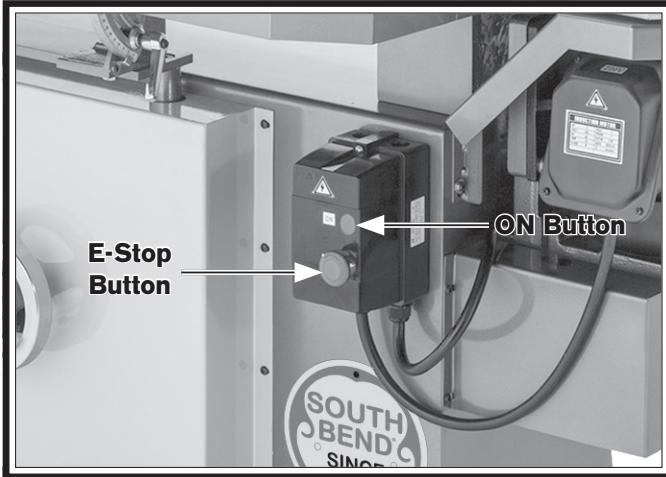

Figure 26. Power control components.
- 3.** Press E-Stop button in (see **Figure 26**).
- 6.** Use ON and E-Stop buttons (see **Figure 26**) to start and immediately stop machine, while watching how belt tracks on drums. Belt "tracking" refers to belt positioning on drums when belt rotates. When tracking properly, belt remains centered on drums as they rotate.